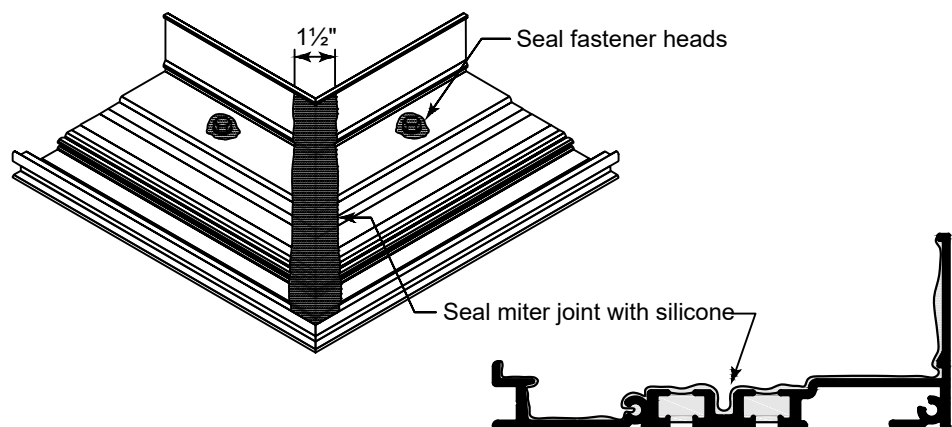

Fig. 37.2
- B. Apply sealant full length of mitered joint. See Figure 37.2.